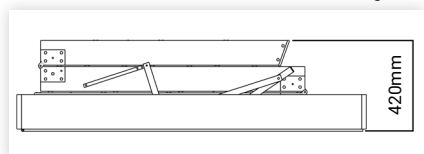

figure 2
- The area for the opening must be clear of wiring, plumbing and structural members such as beams and trusses with a minimum clear height above the ceiling of 420mm for A25, A28, A31 (figure 2).